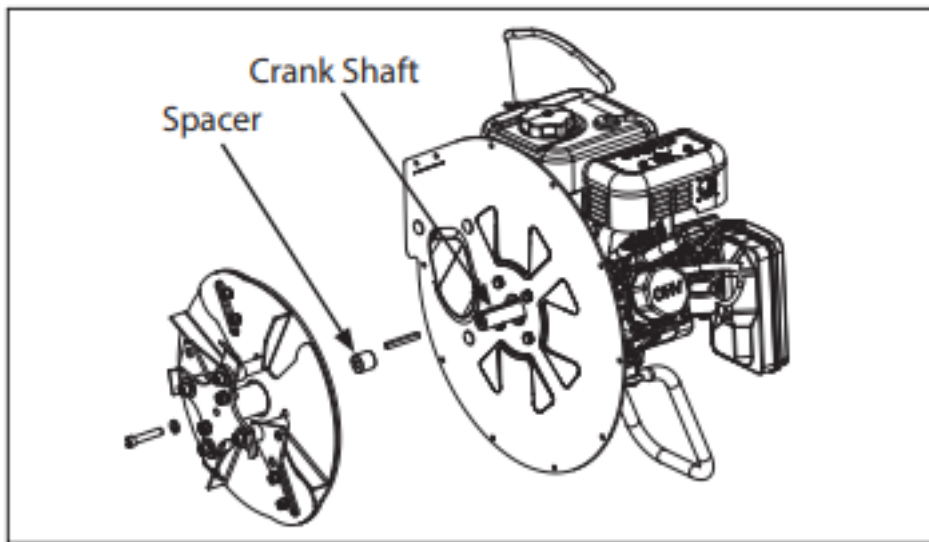

FIGURE 15- Removing the Rotor Housing
The chipping knives should be sharpened or replaced when tree limbs require extra force to feed into the chipper cone. The chipping knives may be sharpened at a 30 degree angle until the distance between the edge of the blade bevel and the mounting hole is less than 1/16" (1.6mm). SEE FIGURE 15.
4. Remove the rotor by removing the hardware that secures it to the engine crank shaft. SEE FIGURE 15